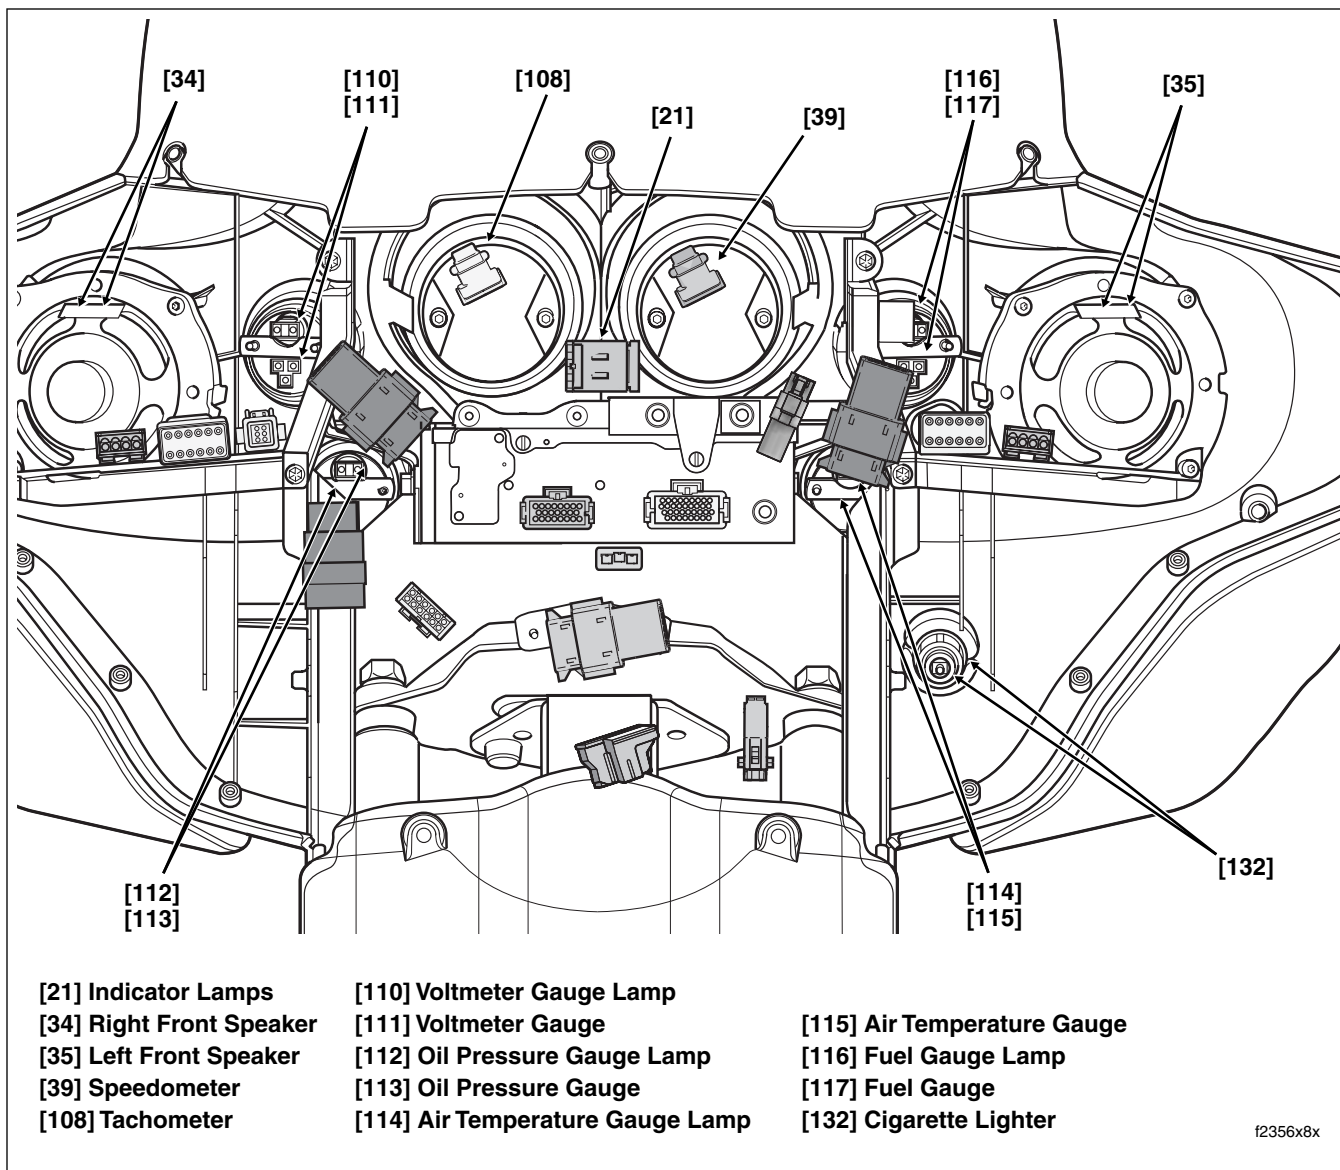
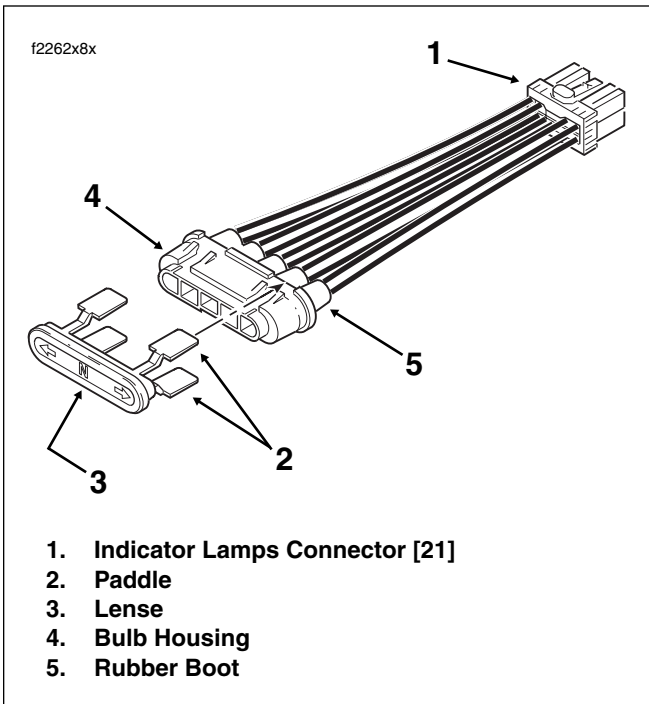

Figure 2-165. Inner Fairing Connectors (FLHX, FLHTC/U)
Figure 2-167. Indicator Lamp Assembly
18. See Figure 2-165. Pull socket terminals [132] from spade contacts on cigarette lighter. Remove cigarette lighter from socket. Holding socket to prevent rotation, unscrew outer shell. Remove socket from inner fairing.
21. Disconnect speedometer gauge connector [39] and tachometer gauge connector [108]. See Figure 2-165. Leaving anchors on interconnect harness installed in outboard ears of brackets, remove allen head socket screws to remove brackets from gauges. Push gauges toward rear of motorcycle to remove from inner fairing.
22. Disconnect indicator lamps connector [21], 10-place Multilock. See Figure 2-165. Release four paddles to free indicator bulb housing from lense assembly. See Figure 2-167. Remove lense assembly from inner fairing.
8. Place indicator lamp lense assembly into inner fairing. Slot at bottom of lense engages tab in inner fairing to prevent improper orientation. Engage all four paddles on lense assembly with slots on indicator bulb housing. Connect indicator lamps connector [21], 10-place Multilock. See Figure 2-167.